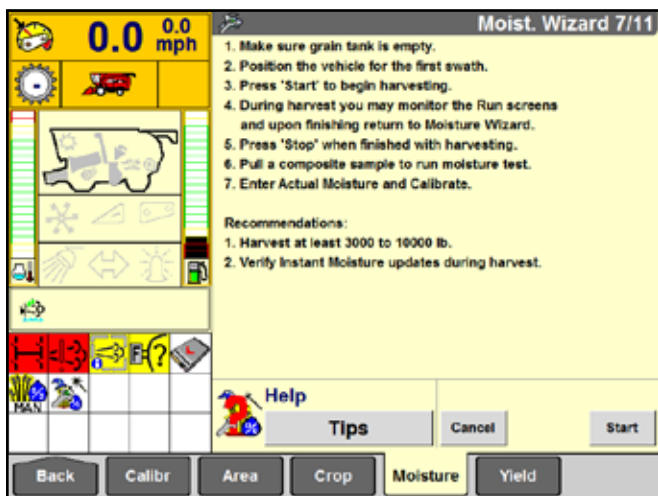

Figure 17.1
- On-screen instructions for harvesting, handling and measuring the necessary calibration loads (see figure 17.1)